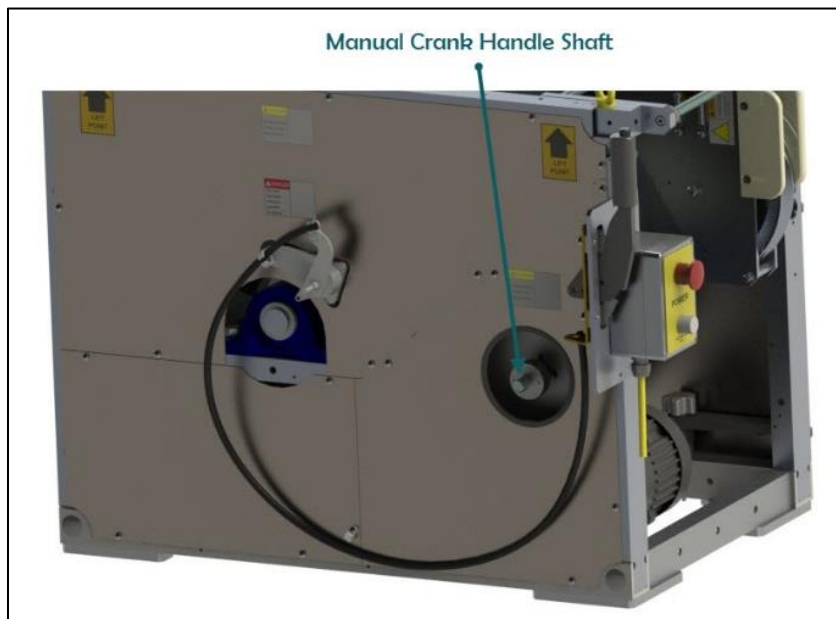

FIGURE 14: MANUAL CRANKING SHAFT POSITION
3. Install the manual crank handle onto the crank shaft (see Figure 14).